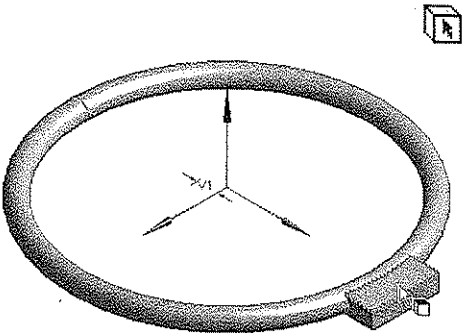

Figure 5-50 Selecting the top face of the first extruded feature
- 37. Select the top face of the first extruded feature, as shown in Figure 5-50. Next, click on the **Apply** button available in the **Base Face** selection box in the **Details View** window.